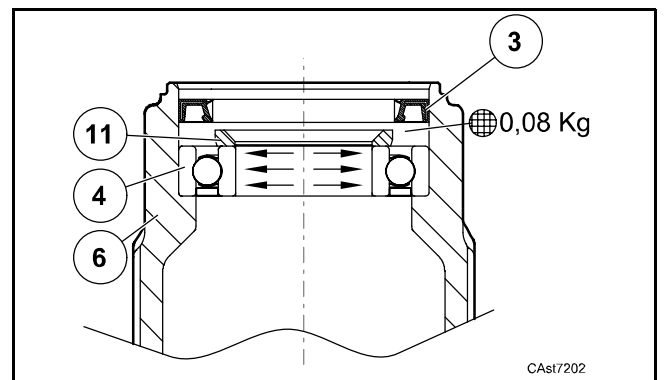

fig. 2
3. Assemble the seal (3) by using the special tool CA119034.
**See:** E.1 (CA643601 final drive) and fig.2
**See:** C.4 and fig.2
5. Assemble the shim (11).
6. Assemble the studs (2) on the wheel axis (1).
7. Warm the shown area to 120 °C for 4/5 minutes to allow the wheel axis (1) insertion.
**See:** fig.2
8. Assemble the wheel axis (1).
9. Overturn the trumpet (6).
10. Assemble the seal (9) by using the special tool CA715824.
11. Assemble the bearing (10) by using the special tool CA715825.
12. Assemble a new O-Ring (19) on the ring gear (18).
13. Assemble the pins (8) on the trumpet (6).